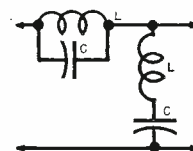

FIG. 3
- The circuit shown in Fig. 3 is a (a) bandpass filter (b) band-rejection filter.